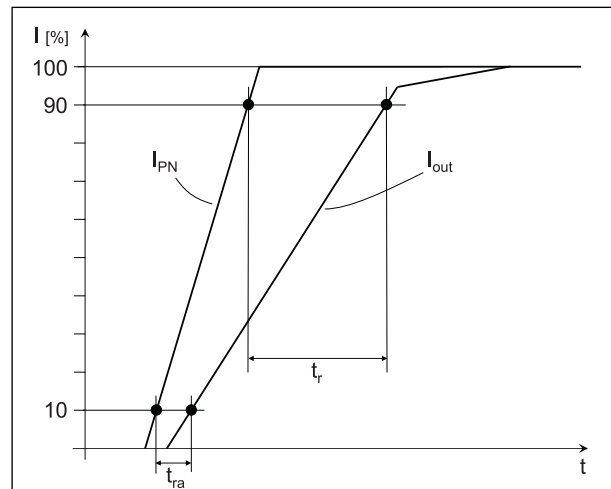

Fig.1: Definition of reaction ( $t_{ra}$ ) and response time ( $t_r$ ).
- $I_P = I_{PN}$  with  $di/dt$  of  $50\text{ A}/\mu\text{s}$ . See Fig.1.